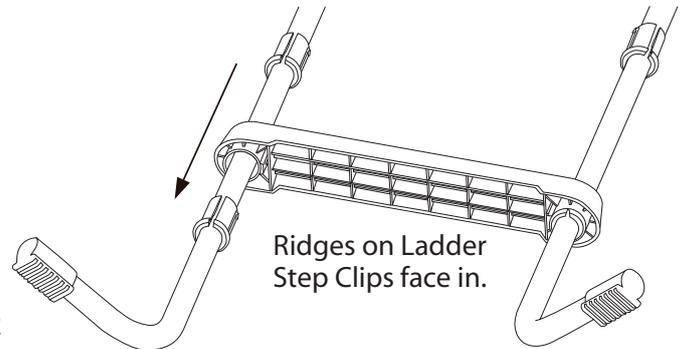

Fig. 2
1. Separate the Ladder Legs (40) – 2 pieces each left and right. Look for the “L” and “R” on the top of the legs.
2. Start with one “R” ladder leg section (40). Carefully pry open one ladder step clip (44) from the side, just enough to get over the top section of the ladder leg, and slide it from the top of the leg down to the lowest indented section as shown in Figure 1. The ridge on the ladder clip should be on the inside of the leg as shown in Figure 2. Repeat with “L” leg section.
3. Slide a step (42) down over both legs. Make sure that the side of the step marked with an “R” is on the right side leg. Slide the step down until the ladder step clips (44) inserts into the underside of the step and the ridges inside of the clips lock into place. The ladder step clips should stay in the indented section of the ladder leg as you press the steps down over them. The ladder step clips should insert flush against the bottom of the step. See Figure 2.
4. Repeat Steps 2 and 3, installing the rest of the ladder step clips (44) and steps (42) for the first section.
6. The Machine Screws (45) should be installed from the inside of the Handle (41), and out through the Ladder Handle Brace with Safety Label (49) on the outside. Make sure that the English warning label is facing out on both handle sections. Install the Lock Washer (47), and thread the Cap Nut (48) on until the Ladder Brace tightens up against the Handle.